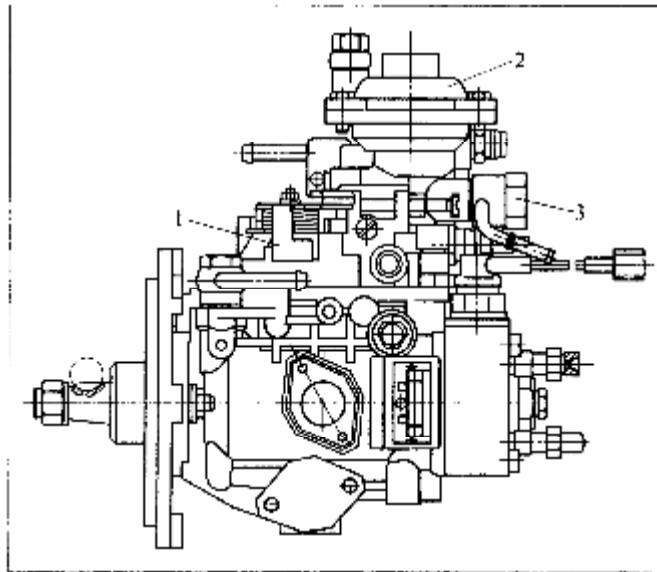
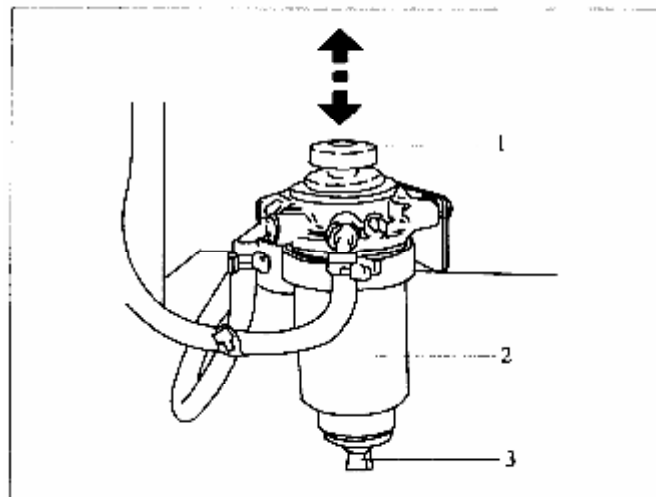

Fig.4-3 Fuel Injection Pump Assembly
Fig.4-4 Bleeding with oil-water separator
(1) Open fuel tank switch;
(2) Bleed low pressure pipe (fuel tank to fuel pump): Loosen oil return connector bolt on fuel pump (see fig.4-3), pump fuel (40 times a minutes) with the hand pump on oil-water separator (see fig.4-4). Go on pumping till there is no air bubble in overflowed fuel. Retighten bolts on hand pump and oil return connector.